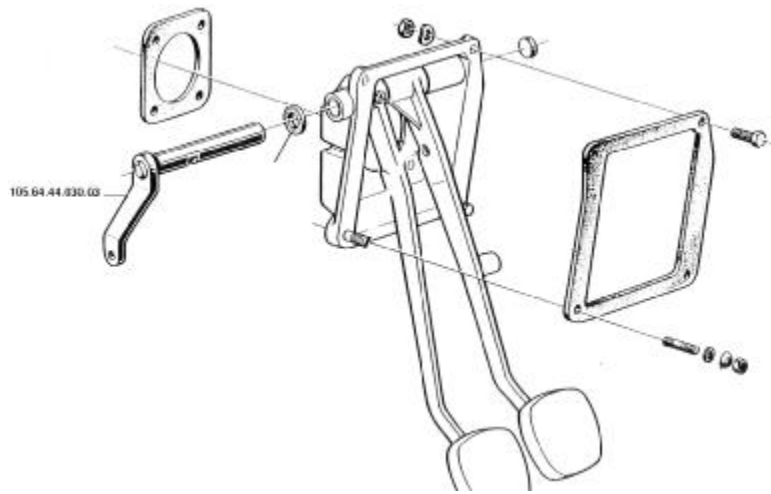

Fig. 1. Pedal box hardware
3. From inside the car, remove the two nuts and washers (13mm socket) securing the bottom of the pedal cluster housing--see Figure 1.